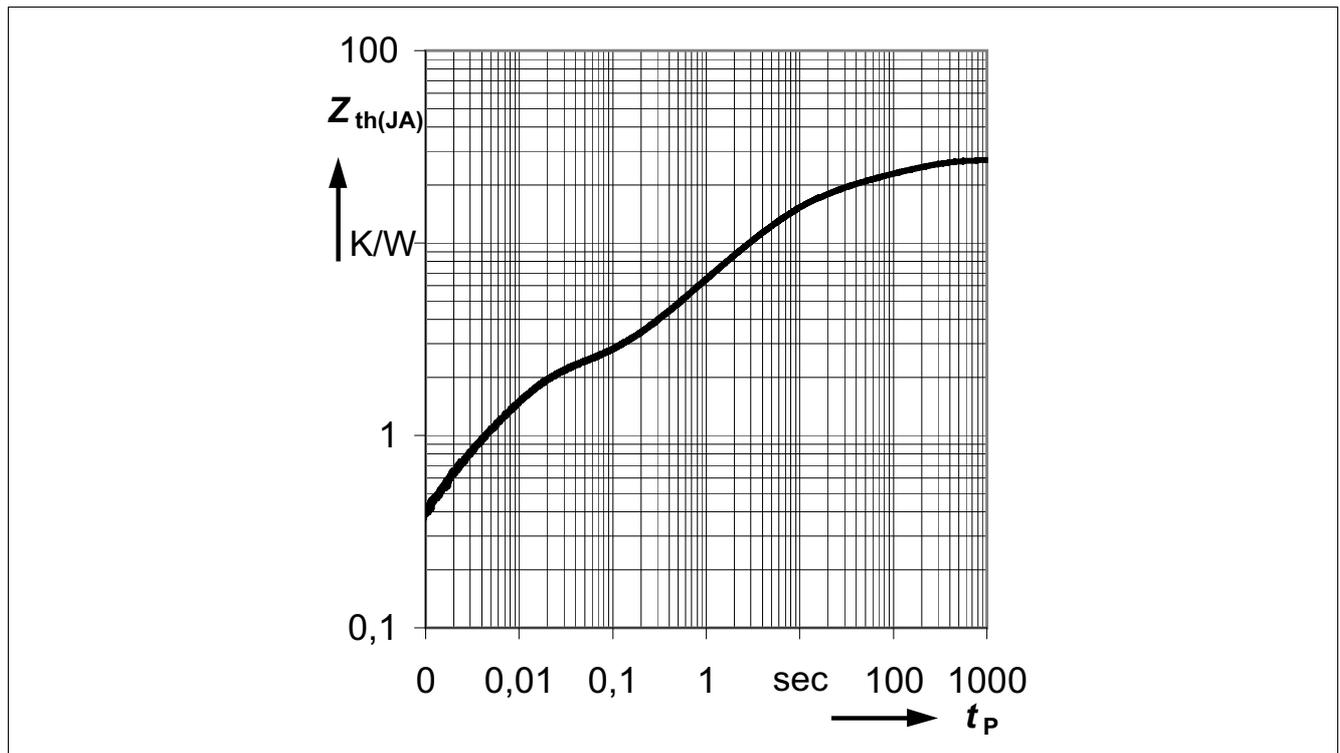

Figure 4 Transient Thermal Impedance $Z_{th(JA)}=f(t_p)$ ⁴⁾
- 4) Specified R_{thja} value and **Figure 4** are according Jecdec JESD51_7 at natural convection on FR4 2s2p board. The BTS50060-1EGA was measured on a 76.2 x 114.3 x 1.6 mm board with 2 inner copper layers (2 x 70 μ m Cu, 2 x 35 μ m Cu) applying power losses of 1.4W at the channel. According to JESD51-5 a thermal via array under the exposed pad contacted the first inner copper layer. $T_a = 25\text{ °C}$.
Figure 4 shows the typical transient thermal impedance of BTS50060-1EGA.